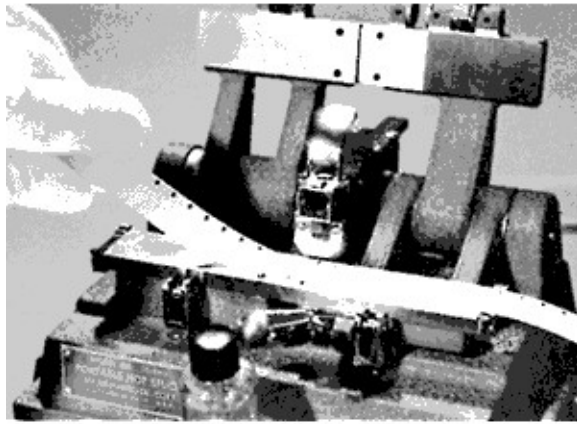

Figure 13
- By the time you finish step 7 above, the splice should be dry and ready to remove from the splicer. When removing a spliced section, always lift up from the LEFT side (Fig. 13). This places the strain *with* the overlap rather than against it. This is particularly important in case you misjudge your drying time and attempt to